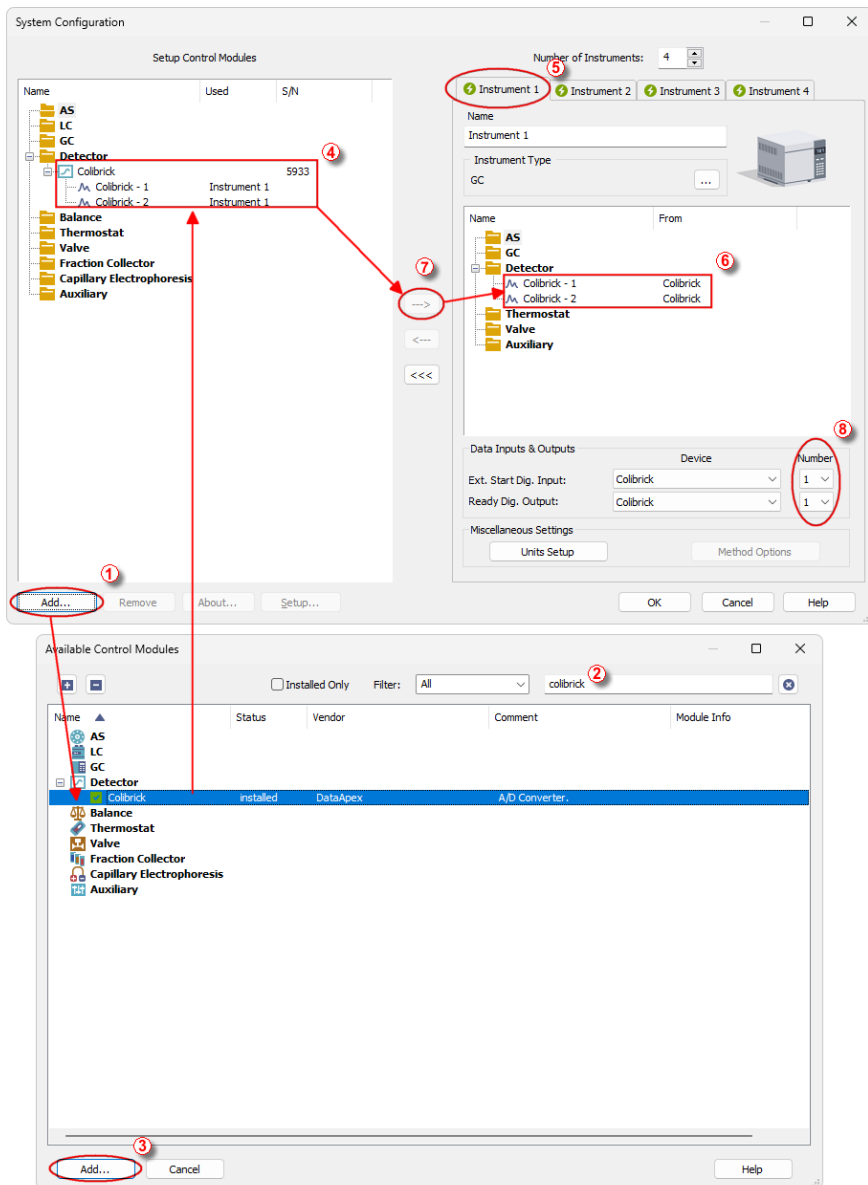

Fig. 6: System Configuration
- Press the *Add* button ① (See **Fig. 6** on pg. 9.) to invoke the *Available Control Modules* dialog.
- You can specify the searching filter ② to simplify the finding of the driver.
- Select the **Colibrick** and press the *Add* ③ button.